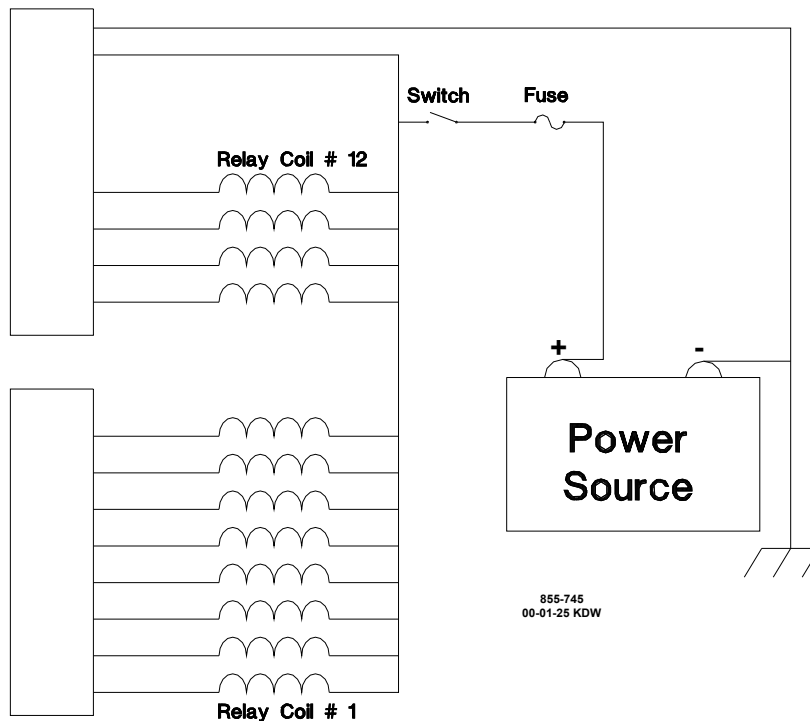

Figure 3-2. Discrete Output Wiring Example
- Refer to Figure 3-2 for discrete output wiring.